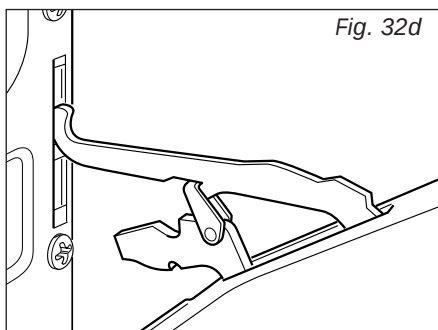

Fig. 32d
- Now pull the oven door forwards off the appliance. Release both hinge sections from the slots (fig. 32d).